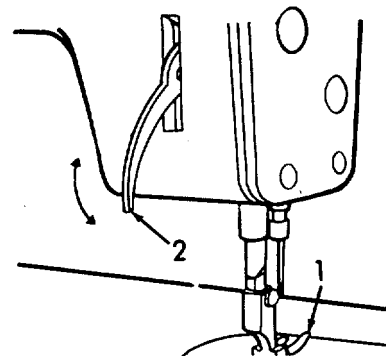

Figure 2-19. Lowering Presser Foot.
b. Installing the Needle (Refer to Figures 2-19 through 2-21).
(1) Refer to Figure 2-19. Lower the presser foot (1) by pushing down on the presser bar hand lifter (2).